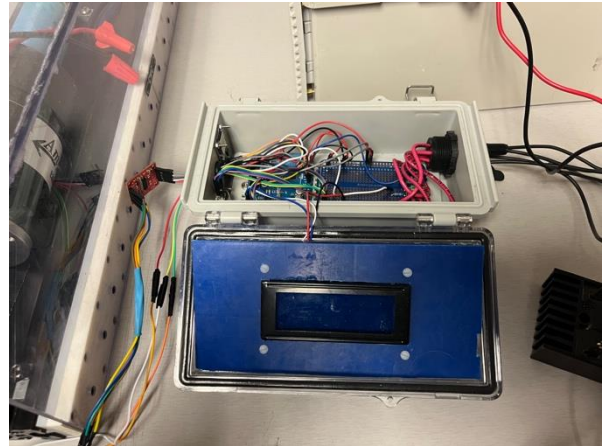
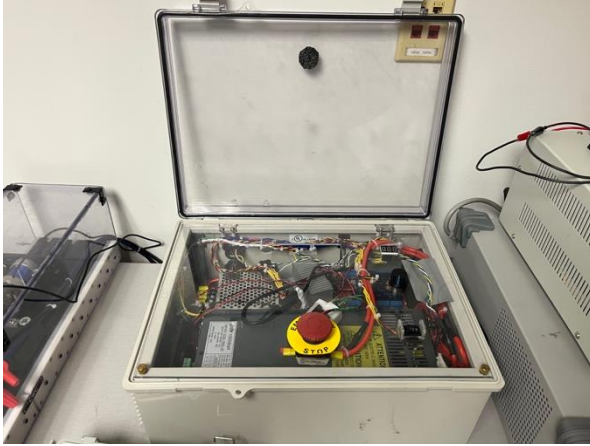

Figure 2: Data Acquisition system
Figure 3: The power supply to the dynamometer motor
3. Wire the DC voltage output to the data acquisition (DAQ) system (see Figure 2).
4. Integrate the torque transducer, infrared (IR) sensor, and voltage divider with the DAQ system to measure torque, rotational speed, and voltage, respectively.
5. Connect an external power supply to the dynamometer motor (see Figure 3).
3. Wire the DC voltage output to the DAQ system (see Figure 2).